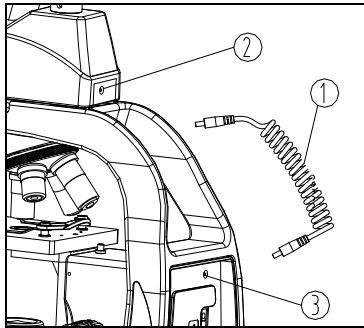

Fig.18
1. Plug one end of the power cord ① into the power socket ② on the observation head and the other end into the power socket ③ on the back of the microscope, making sure to make a good connection.
2. Adjust the microscope, use binocular or monocular observation and connect to the microscope hotspot wirelessly via Wi-Fi to activate the professional software to obtain the image once the image is clear (See Fig. 18).